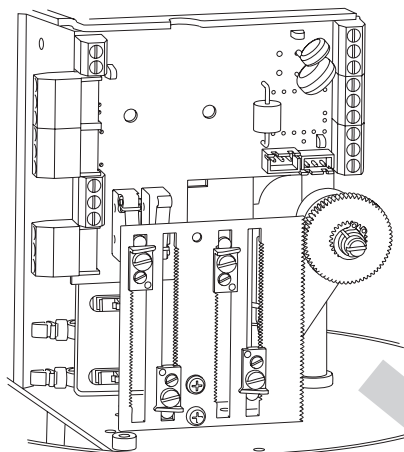

Fig. 19
- Remove the switching plate (Figures 19 and 20).